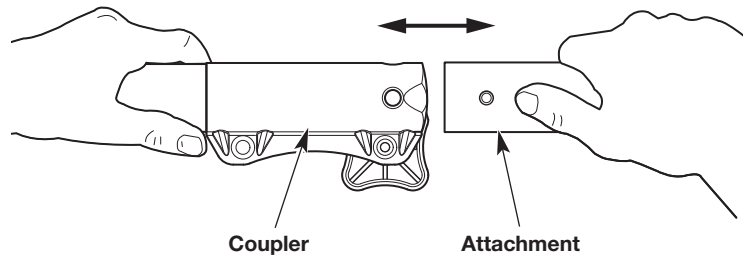
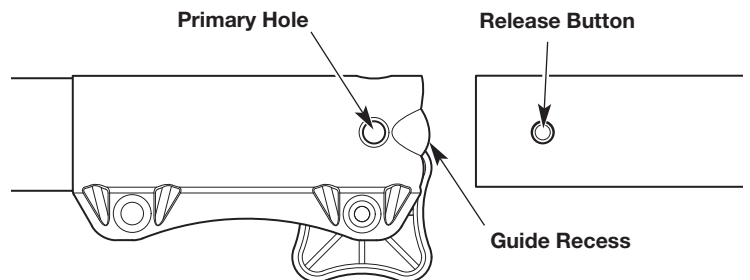

Fig. 7
Fig. 9
4. Align the release button with the guide recess (Fig. 9).
5. Push the attachment straight into the coupler (Fig. 7) until the release button snaps firmly into the primary hole (Fig. 9).
3. Press and hold the release button (Fig. 9).
4. Pull the attachment straight out of the coupler (Fig. 7).